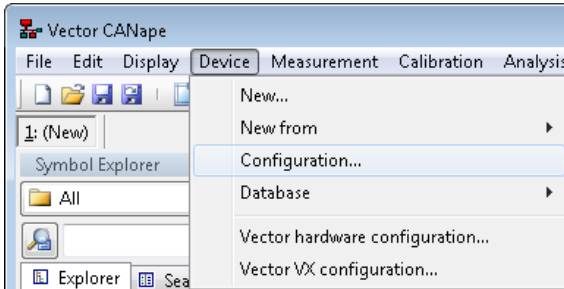

Fig. 7.5 Calling the configuration dialog
1. Select **Device -> Configuration** in CANape (Fig. 7.5).